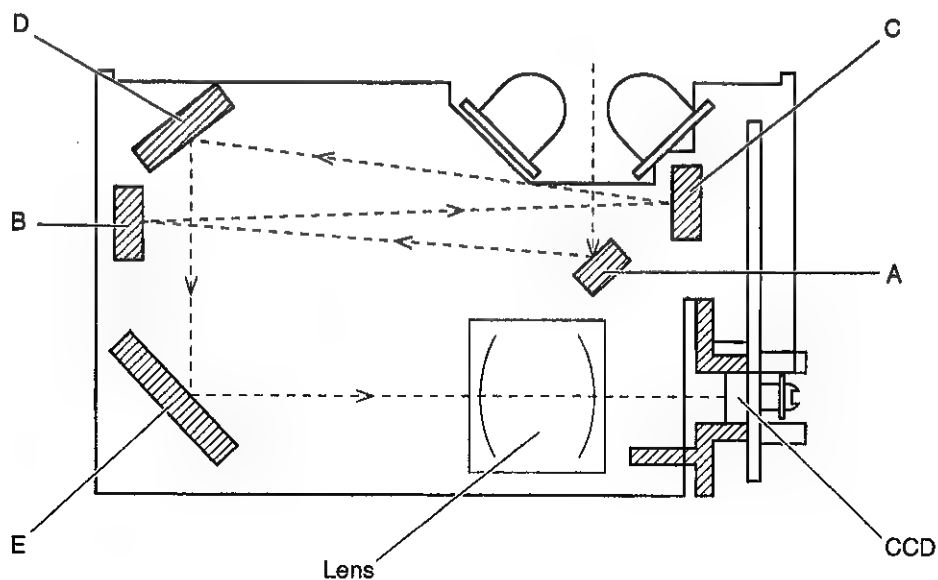

**Fig. 6-6**
- (5) When the Hopper cam rotates in the direction of arrow as shown in Fig. 6-6, it pushes up Hopper spring, and enables to paper feeding by attaching Hopper Plate to Paper Feed Roller.